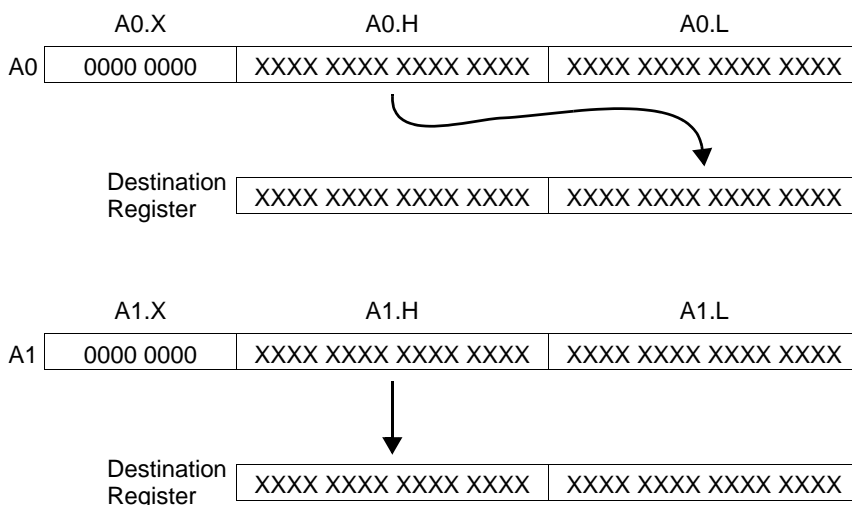

Figure 2-14. Multiplication of Fractional Operands
- If the multiplication uses fractional operands or the **IH** option, then the high half of the result is extracted and stored in the 16-bit destination registers (see Figure 2-14).